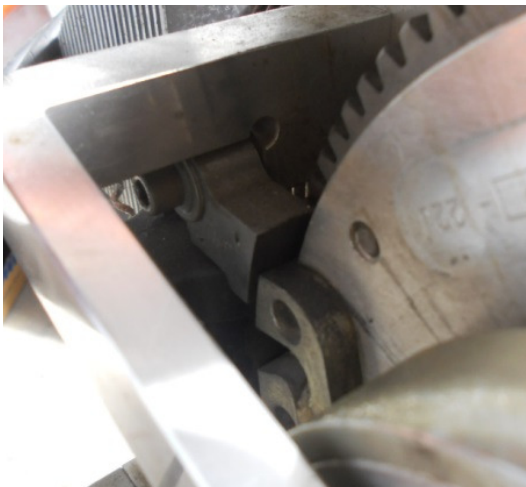

Figure 3: Coil position.
- Perform a crankshaft friction test before through bolt engine work commences. This can be done by measuring the force required to turn the propeller with a spring scale. Remove one spark plug from each cylinder. Turn the engine over several times. Position the crankshaft so that the magnets are almost lined up with the ignition coils, see Figure 3. Then using a spring balance at the tip of the propeller blade, (take care not to damage the propeller blade) pull the prop slowly in the direction of rotation. Take note of the reading on the scale as you do this. You will only get about 150mm of movement before the camshaft causes the prop to move more easily.